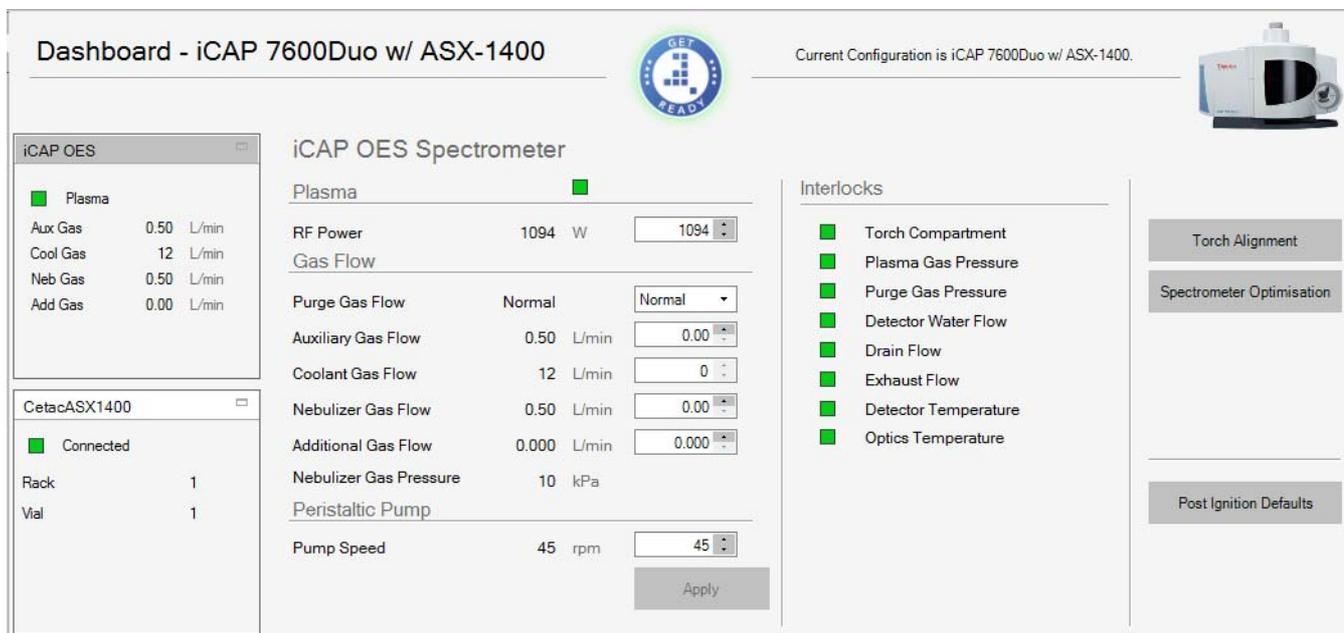

Figure 4-23. System Statuses on Dashboard
1. On the Dashboard page, check the values and indicators of each subsystem, see Figure 4-23.